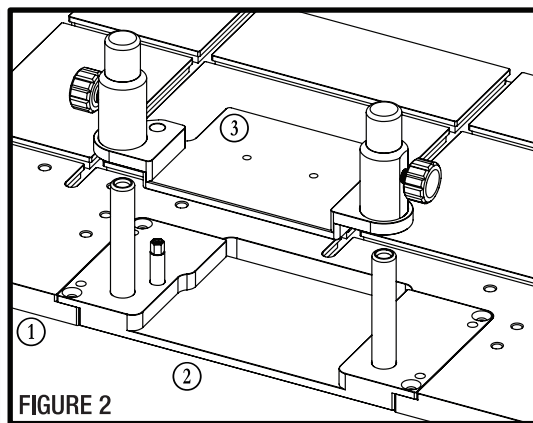
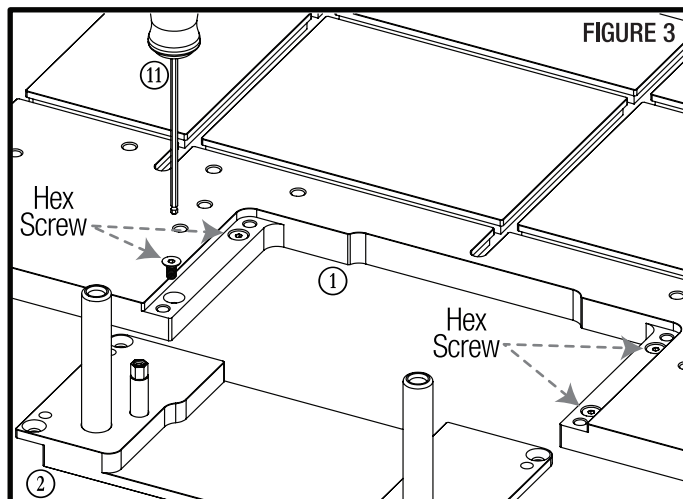

FIGURE 2
FIGURE 3
2. Loosen the Lock Knobs ④ and remove the Carriage ③ from the Base ②. **Figure 2.**
3. Slide the Base out from the Table ①.
4. Install (4) #10-32 x 3/8" Hex Screws into counter-sunk holes in the recess for the Base. Screw them in until they are just below the surface. *These will be used to level the Base in Step 6. Figure 3.*